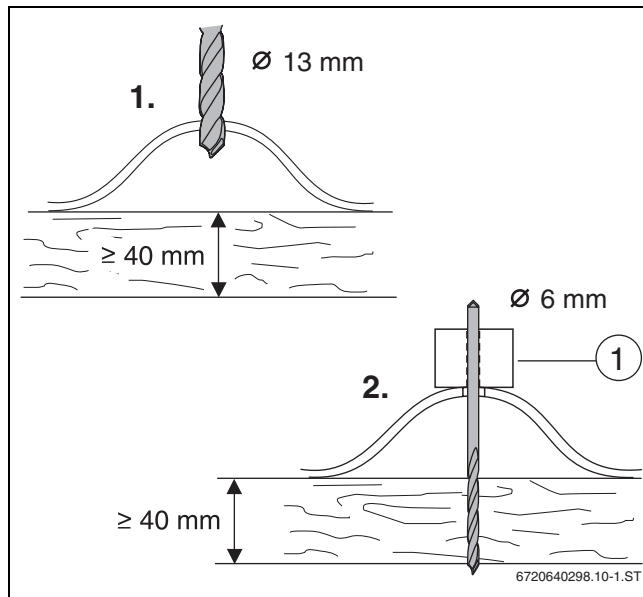

Fig. 28
**i** We recommend making a drilling template to ensure accurate vertical drilling (→ Fig. 28 [1]).